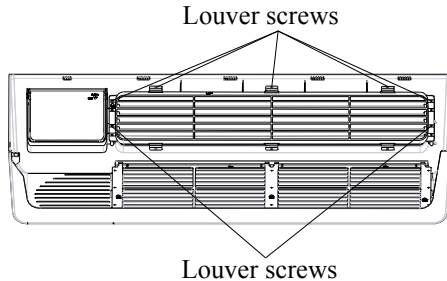

Fig. 18 Backside of Front Panel
2. Remove louver screws that hold louver insert in place (from back side of front panel). See Fig. 18.